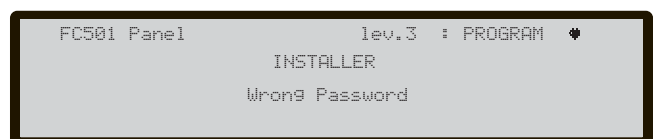

Figure 38 Display Wrong Password
**ENTER key** Accepts the password and starts the password verification process. If a Password is wrong or missing, the screen shown in Figure 38 will appear.